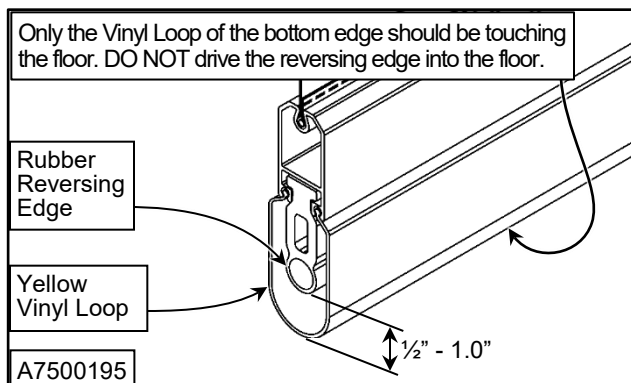

Figure 12
2. Press the door close (▼) button. While the door is closing, tap the bottom of the reversing edge that runs along the bottom edge of the door. Stand outside the photo eyes to avoid activating the photo eye circuit. (See Figure 12)
4. Inspect the bottom seal along the bottom bar assembly for wear, tears, and/or abrasion. Replace any worn or damaged parts as required. (See Figure 12)